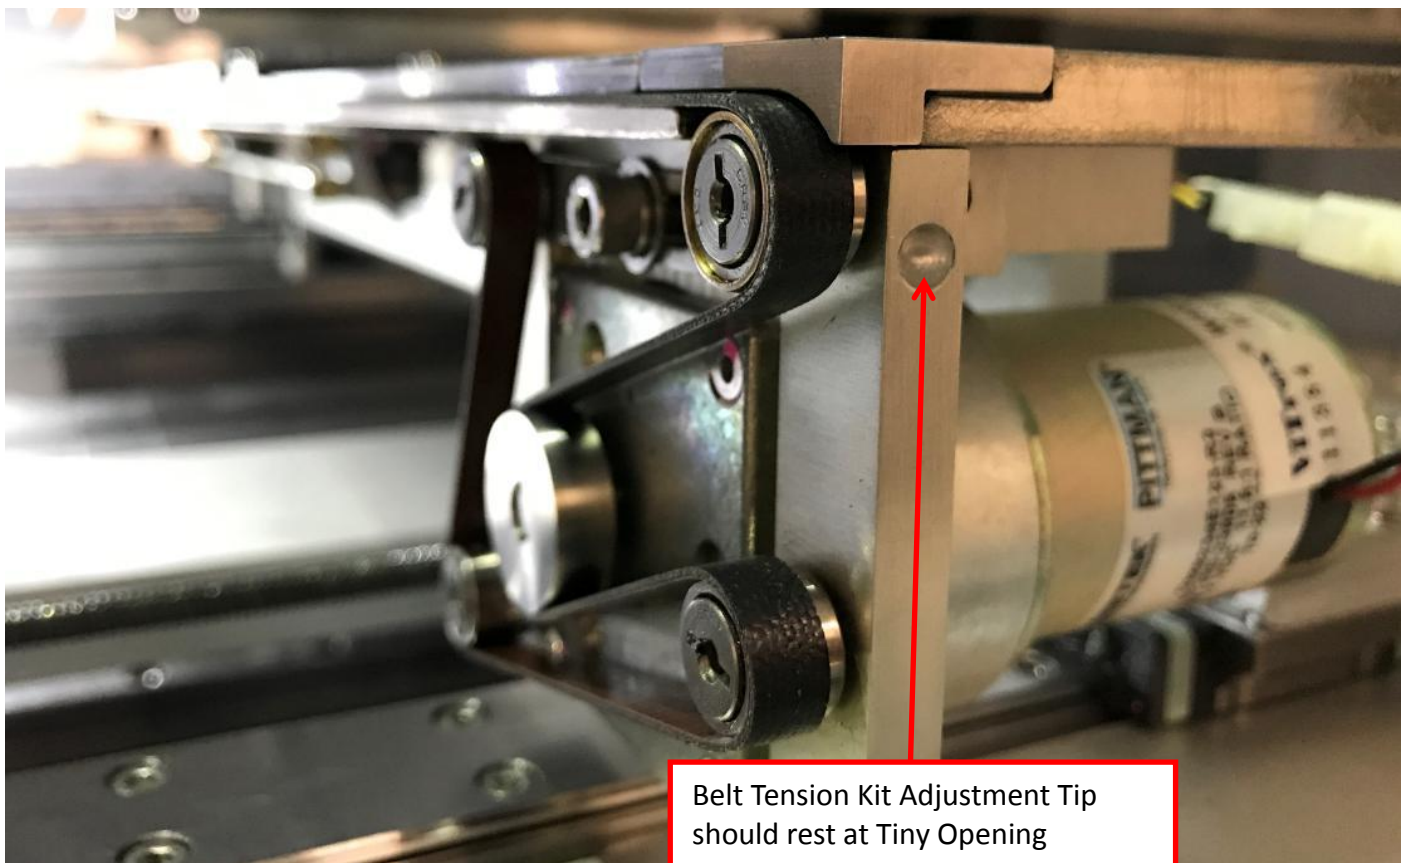
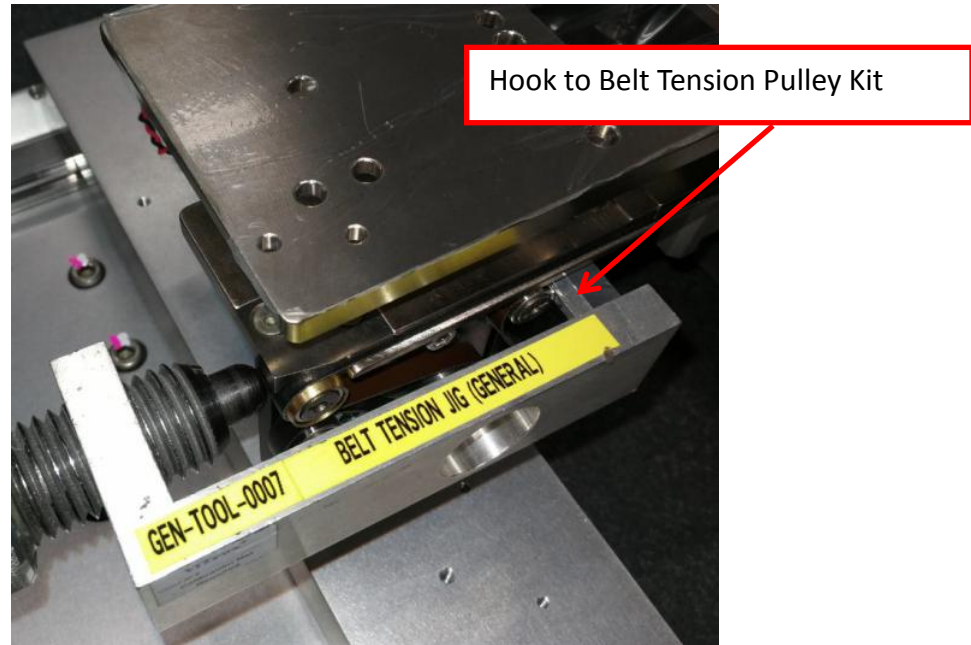

Figure 20 Belt Tension Kit Placement
Figure 21 Belt Tension Kit
7. Gently rest Belt Tension Adjustment Tip on Tiny Opening as below Figure 20 ,while other end will require to hook with the Tension Pulley as Figure 21